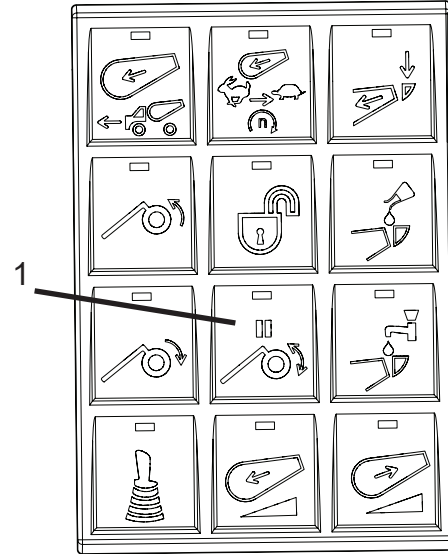

Figure 54
- A Bridgemaster axle STOP button is on an in-cab keypad and is used to stop axle motion (Figure 54, Item 1). **NOTE:** The STOP button will also stop the chute raise/lower functions.